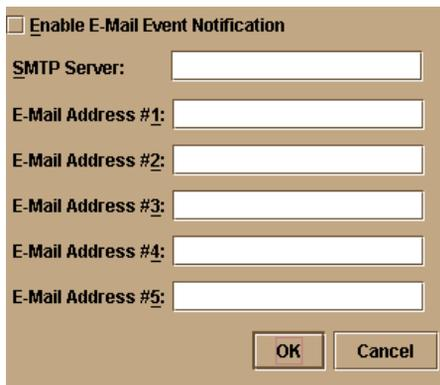

Figure 2–45: Configure E-Mail dialog box
1. At the **Product View**, choose **Maintenance > Configure E-Mail**. The **Configure E-Mail** dialog box displays, as shown in Figure 2–45.